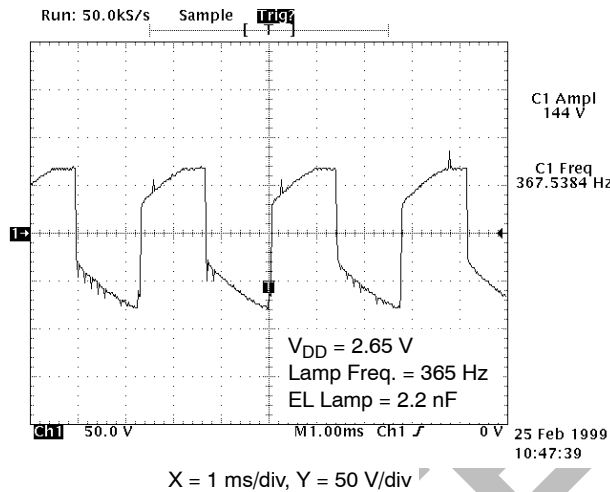
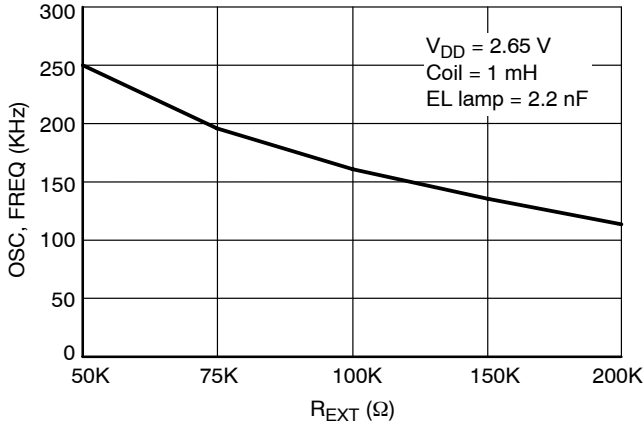

Figure 3. Output Waveform versus Time
Figure 4. Oscillator Frequency versus REXT
Since the fundamental frequency of the oscillator is set by the external resistor (R1), the temperature coefficient of the frequency is dominated by the value of this resistor. A low temperature coefficient (TC) resistor is suggested to use for keeping the variation of oscillator’s frequency low against the operation temperature range. (See Page 4, Fig. 3 & Fig. 4)